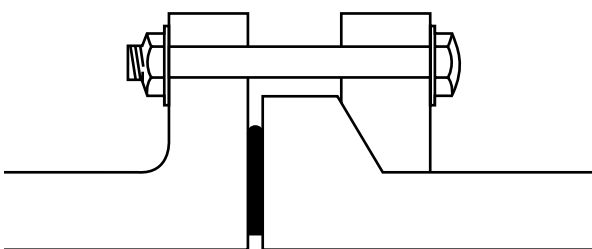

Figure 3-16 Loose ring flange with O-ring profile gasket with steel ring
- 2 an “O”-ring profile gasket with steel ring for flat flange surfaces (no groove required) as shown in **Figure 3-16**.